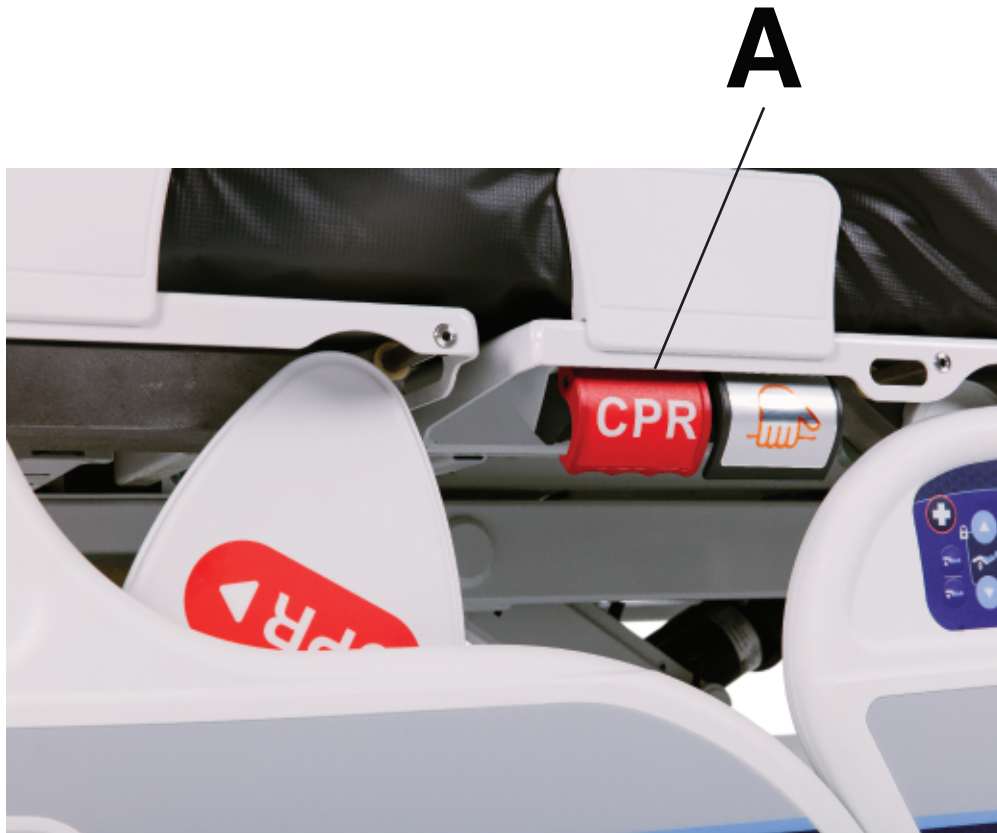

Figure 10 – Activating the CPR release
You can find the two CPR release levers at the head end section on both the left and right sides of the Fowler (A) (Figure 10).
1. Pull the lever (A) on either side of the Fowler (Figure 10).